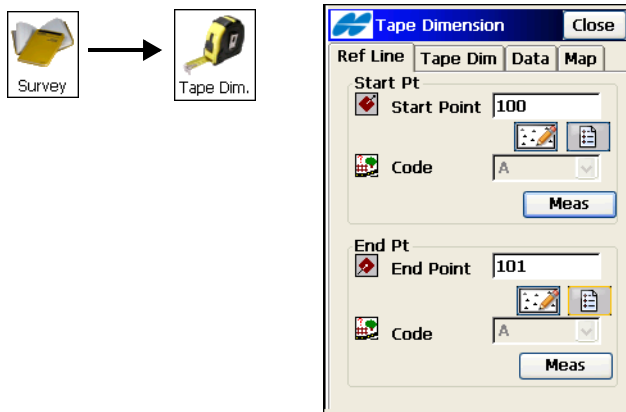

Figure 8-31. Tape Dimension – Ref Line Tab
1. To start working, tap **Survey ► Tape Dimension** (Figure 8-31 on page 8-30).
2. On the *Ref Line* tab, enter the information about the two points that comprise the reference line: the names and codes. If the reference line points are to be observed, tap the **Meas** button in the corresponding fields (Figure 8-31 on page 8-30).